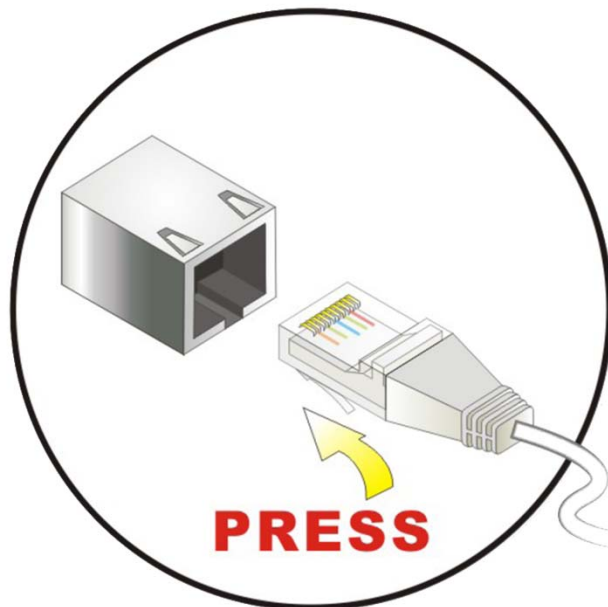

Figure 6 – LAN Connection
Step 2: Align the RJ-45 connector on the LAN cable with the RJ-45 connector on the rear panel of the MBB100 (see Figure 6).